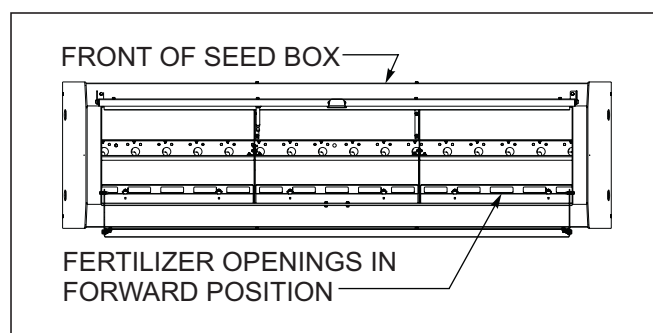

Figure 4-19: Fertilizer Box w/Cover Opening Forward
- b. For increased seed capacity and non fertilizer use, the covers should be reversed with the openings to the front of the seed box, and the solid portion covering the fertilizer meters *See Figure 4-19*.